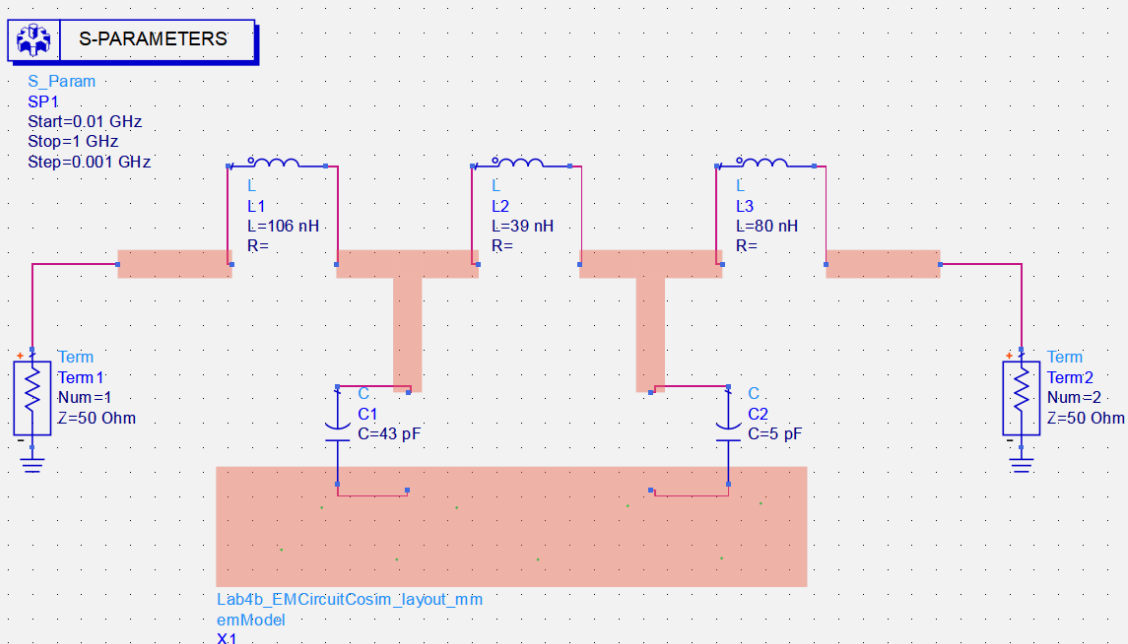

Figure 42. Discrete components connected to the emModel
5. Place the desired discrete components on the schematic and connect them to the layout component as shown in Figure 42.